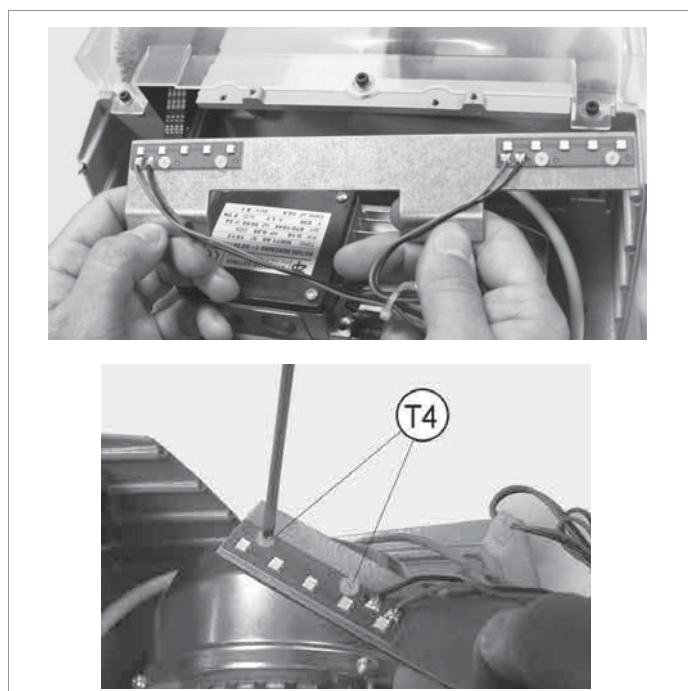

Fig.79
- 5) Loosen the lamp fixing screws (T4) and remove (Fig.79).